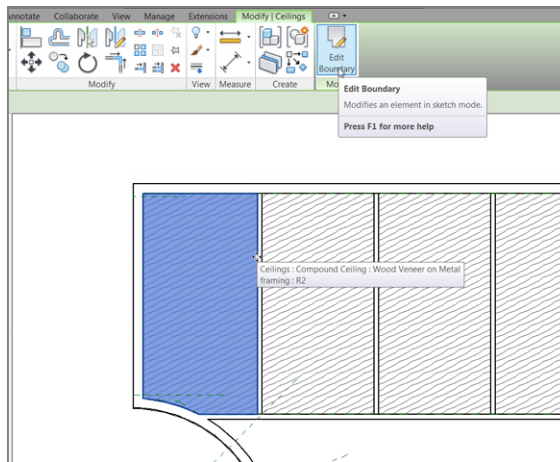

FIGURE 9.20: Clicking the Edit Boundary button on the Modify | Ceilings tab
2. Zoom in to the wood ceilings in the west wing, as shown in Figure 9.20.